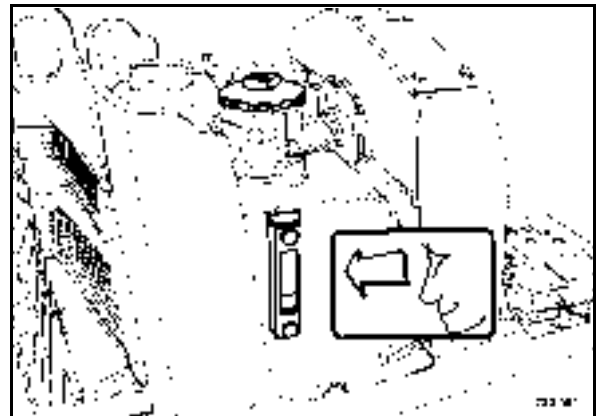

Fig. 93
- Check the hydraulic oil level in the inspection glass (Fig. 93).